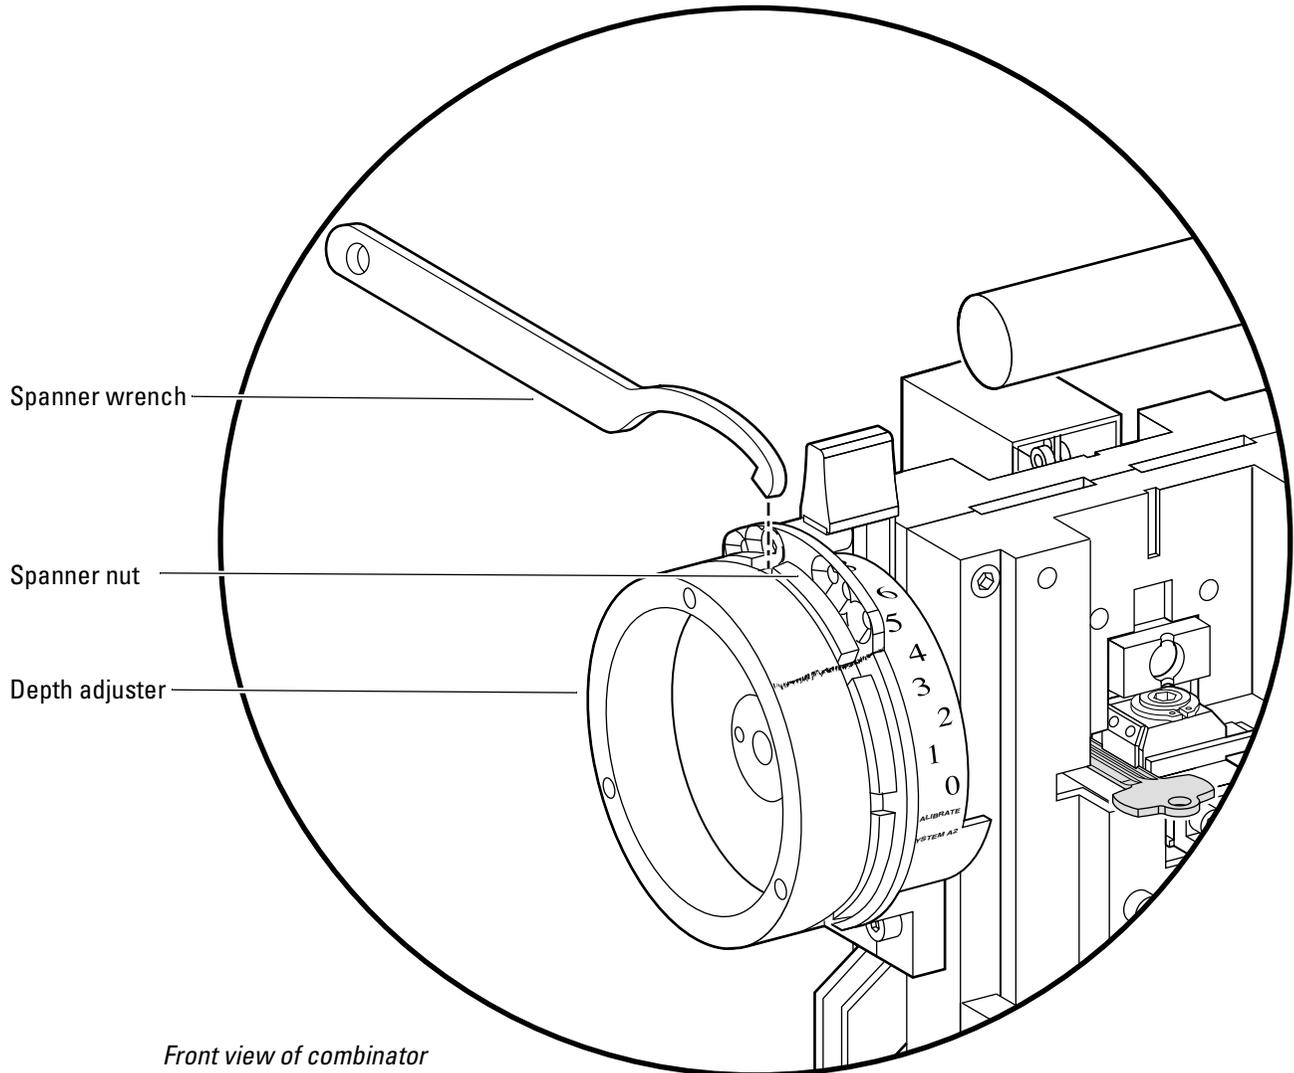

Figure 3.18 Loosening the spanner nut
2. While holding the depth adjuster in place, use a spanner wrench to loosen the spanner nut. See Figure 3.18.
2. While holding the depth adjuster in place, use the spanner wrench to loosen the spanner nut. See Figure 3.18.